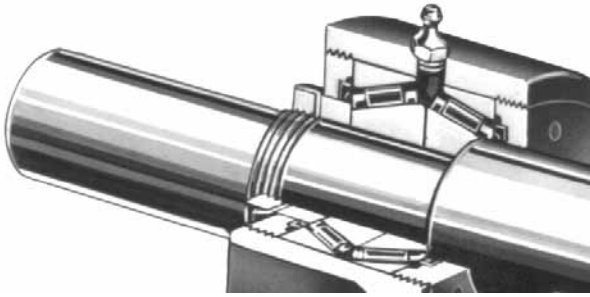

FIGURE 9
11. Insert both tapered roller bearings in thrust bearing housing, large end of inner races together. It is possible to install bearings incorrectly, for proper assembly refer to **Figure 9**.